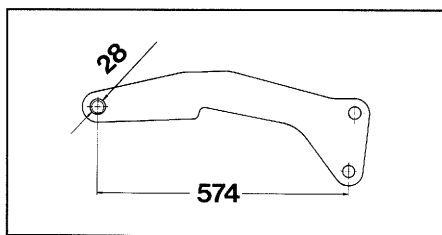

Fig. 9
1. Carrying arms (Fig. 9) for rotary cultivators KG, rotary harrows KE and KE-SPECIAL